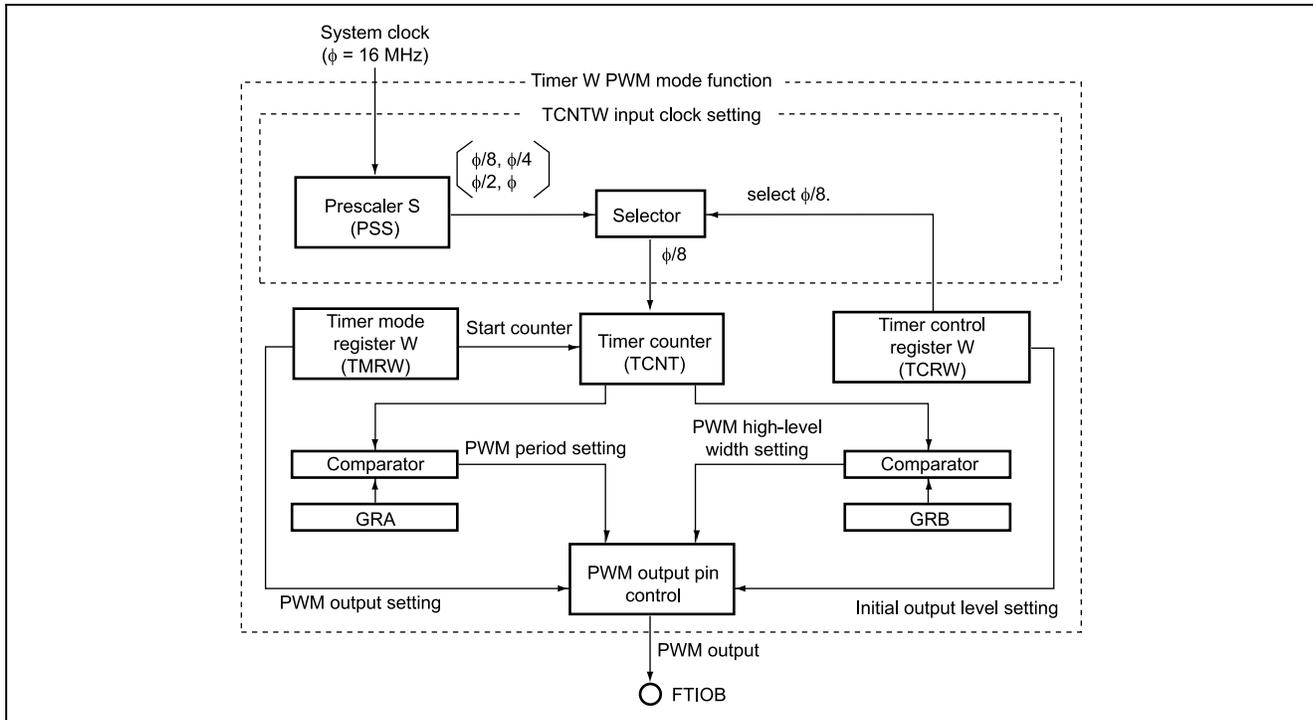

Figure 2.1 Block Diagram of Timer W PWM mode
1. In this sample task, a PWM waveform is output by using the PWM mode of timer W. Figure 2.1 is a block diagram of timer W PWM mode. The elements of the block diagram are described below.